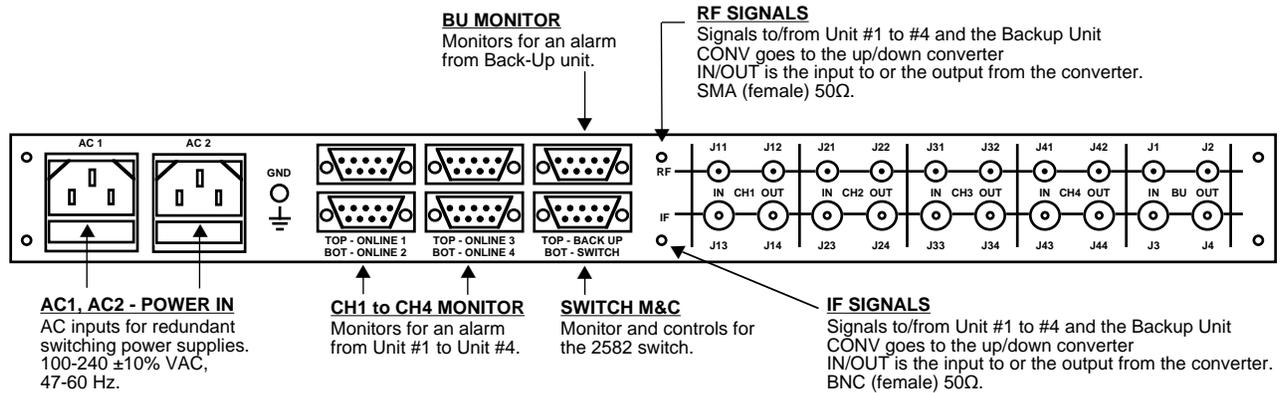

FIGURE 2.1 2582-144 Rear Panel I/O's
Figure 2.1 shows the input and output connectors on the rear panel.
1. Connect Converters (CH1, CH2, CH3, CH4, BU) to respective channels on the 2582 (Figure 2.1).
2. Connect Alarm/Control cables from Converters to respective monitors on the 2582 (Figure 2.1).
3. Connect two 100-240 \pm 10% VAC, 47 - 63 Hz power cords to AC A and AC B on the back panel (Figure 2.1).